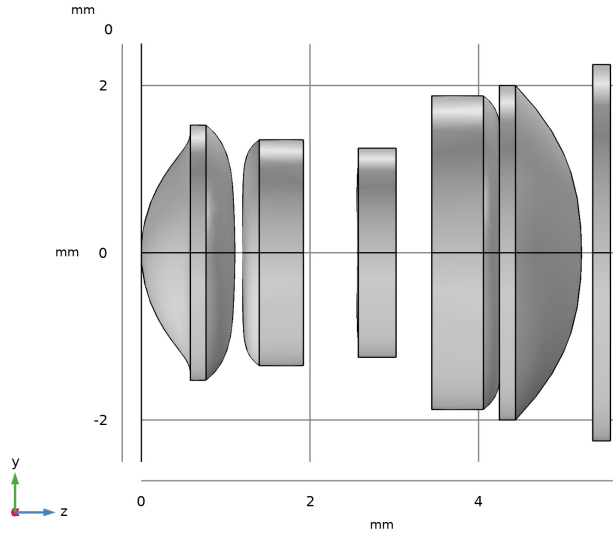
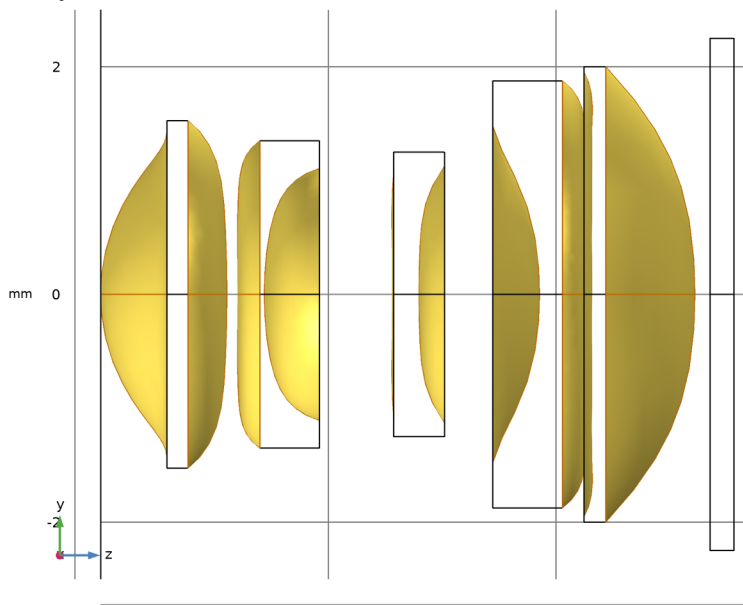
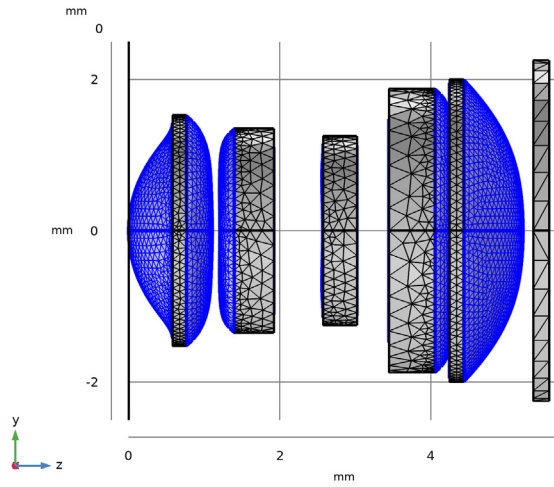
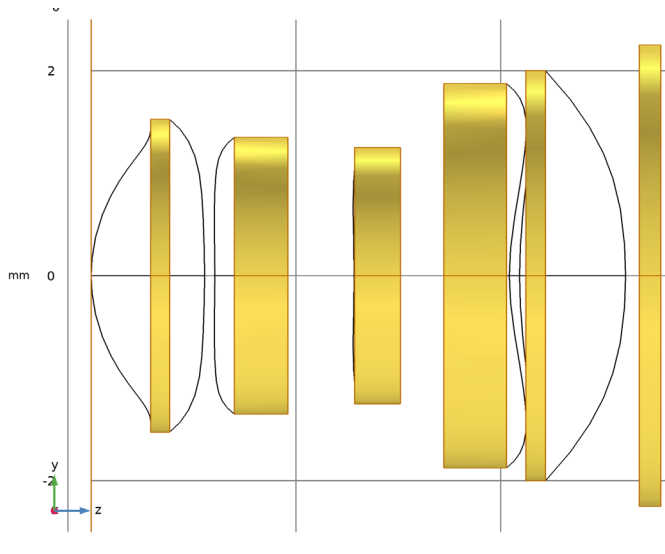

Figure 2: The Compact Camera Module geometry sequence. Instructions for creating the lens geometry can be found in the Appendix.
Figure 3: The Compact Camera Module aspheric surface cumulative selection.
Figure 4: The Compact Camera Module mesh. This view shows the aspheric surfaces on which the mesh has been refined.
Figure 5: The Compact Camera Module obstruction cumulative selection.
The detailed optical prescription is given in Table 1. Instructions for creating the lens geometry sequence (Figure 2) can be found in the Appendix — Geometry Instructions. In addition to the parameters used to define the Compact Camera Module geometry, a set of parameters are required to define the ray tracing model. These are listed in Table 2.
The ray tracing algorithm used by the Geometrical Optics interface computes the refracted ray direction based on a discretized geometry via the underlying finite element mesh. In this model, a cubic geometry shape order is used in order to reduce the discretization error. However, it is sometimes necessary to refine the mesh on certain surfaces in order to further reduce the effects of discretization. The aspheric surfaces of the Compact Camera Module have been assigned to a cumulative selection (Figure 3) on which the mesh has been refined (Figure 4).¹
The Compact Camera Module is assumed to be operating in air at room temperature. The wavelength is set to $\lambda = 587.56 \text{ nm}$ (that is, the wavelength at which the refractive indices are specified). Other Geometrical Optics features include the use of cumulative selections to define obstructions (see Figure 5) and the focal surface. A hexapolar grid release is used to launch rays at each of the four field angles. Each release has 25 rings, giving a total of 1951 rays per field angle. Detailed instructions for creating this model can be found in Modeling Instructions.
- 7 Click the **Orthographic Projection** button in the **Graphics** toolbar. Orient the view to place the optical axis (z-axis) horizontal and the y-axis vertical. Compare the resulting geometry to Figure 2. The **Cumulative Selections** defining the aspheric surfaces and obstructions can be seen in Figure 3 and Figure 5 respectively.